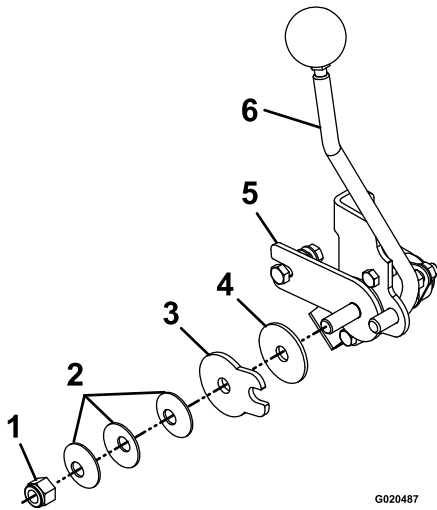

Figure 56
3. To adjust the tension, adjust the pivot nut, which is located at the end of the motion-control shaft in front of the right console (Figure 56).